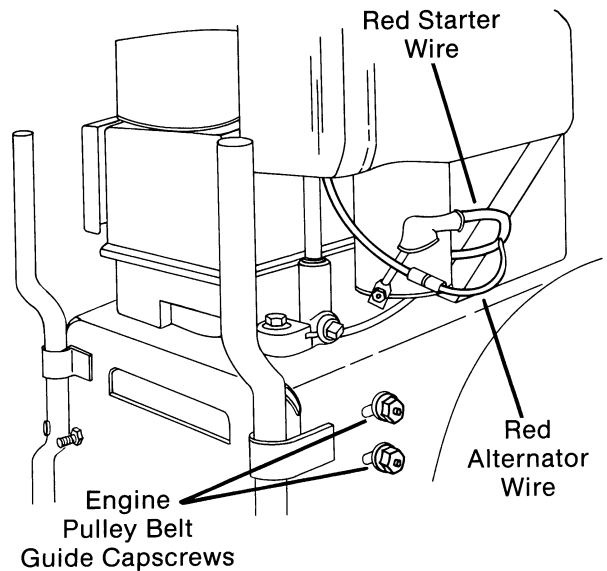

FIG. 5
- F. (Electric start only) Disconnect red starter wire and red alternator wire at connector at right rear corner of engine. (Fig. 5)
- H. Remove carriage bolts, washers and locknuts securing engine pulley belt guide and remove belt guide. (Fig. 5)